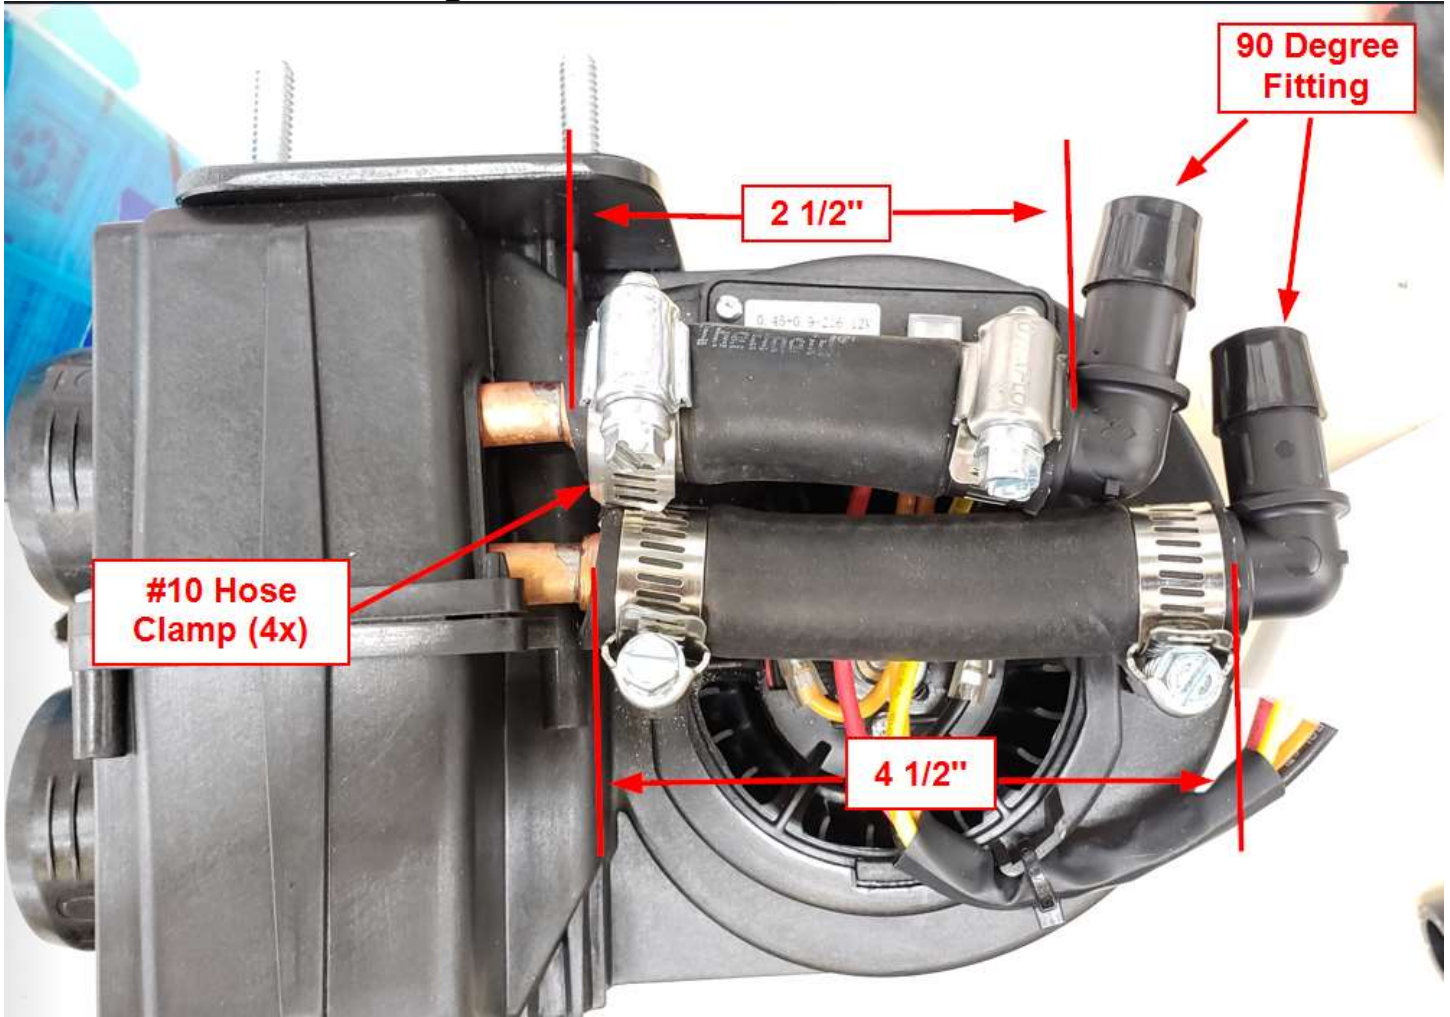

Figure 15
- d. Cut 2 ½" piece of 5/8" Heater Hose and attach it to the Heater Unit as shown in Figure 15. Insert (1) 90 Degree Fitting as shown. Secure using #10 Hose Clamps.
- e. Cut a 4 ½" piece of 5/8" Heater Hose and attach it to the Heater Unit as shown in Figure 15. Insert (1) 90 Degree Fitting as shown. Secure using #10 Hose Clamps.